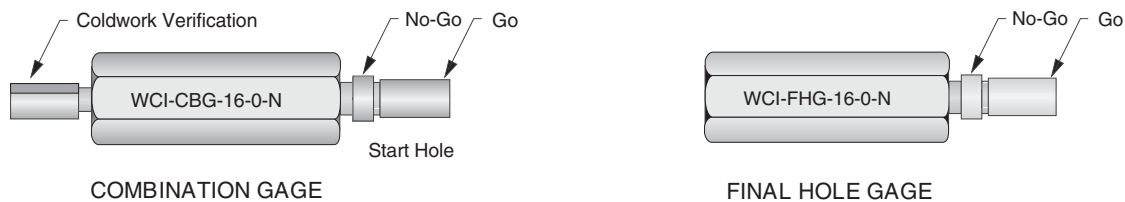

Figure 3-05 — Combination and Final Hole Gages
3.9 **Gages** - The aerospace industry utilizes four types of gages to verify hole sizes during the coldworking process. Ref. Fig. 3-05.
3.9.3 **Combination Gage** — The combination gage combines the above two gages into one unit. One end of the gage checks the pre-coldworked start hole while the other end verifies that the hole has been coldworked. Ref. Fig. 3-05
3.9.4 **Final Hole Gage** — The final hole gage is used to verify that the final hole diameter is within the specified tolerance. Ref. Figure 3-05